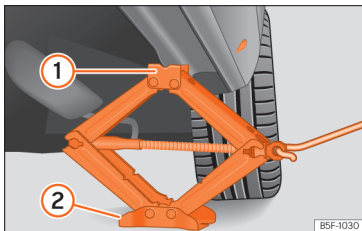

Fig. 39 Cross member: positioning the jack on the vehicle.
- Turn the jack crank handle, located below the strut support point, to raise it until the tab ① » » Fig. 39 is below the housing provided.
- Align the jack so that tab ① "grips" onto the housing provided on the strut and the mobile base ② is resting on the ground. The base plate ② should fall vertically with respect to the support point ①.